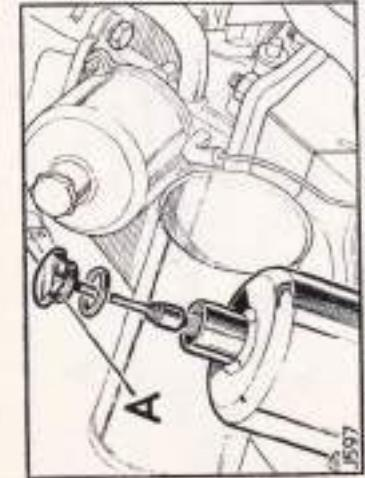

Fig. 11 Hydraulic damper for carburetor
**Carburetor hydraulic dampers.** (Fig. 11)